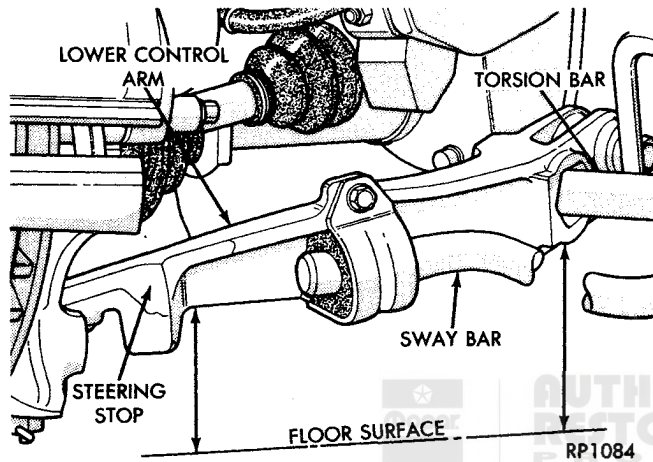

Fig. 2—Height Measurement Points (Four-Wheel-Drive)
(1) Clean all foreign material from the areas where height measurements are taken (Fig. 2).
(2) The front of the vehicle must be jounced vigorously to eliminate friction effects **before** making height measurements. It is recommended that the front bumper amplitude (total vertical movement) during jouncing be at least 4 inches, which may require two people. The vehicles should be jounced several times releasing it at the bottom of the downward motion.
(3) Front suspension height is set by rotating the rear torsion bar anchor through an adjusting
(4) The front suspension height is specified as the difference in height of the lower control arm inner pivot and the outer end of the arm, see Figure 2. The correct lower control arm differential height is 1.25" and is measured as follows:
(5) After each adjustment, jounce vehicle as in (2) above before remeasuring. Both sides must be measured even though only one side has been adjusted.
(6) Front heights should not vary more than 1/4 inch (6.4 mm) from the specifications when resetting and also should be within 1.4 inch (6.4 mm) side to side.